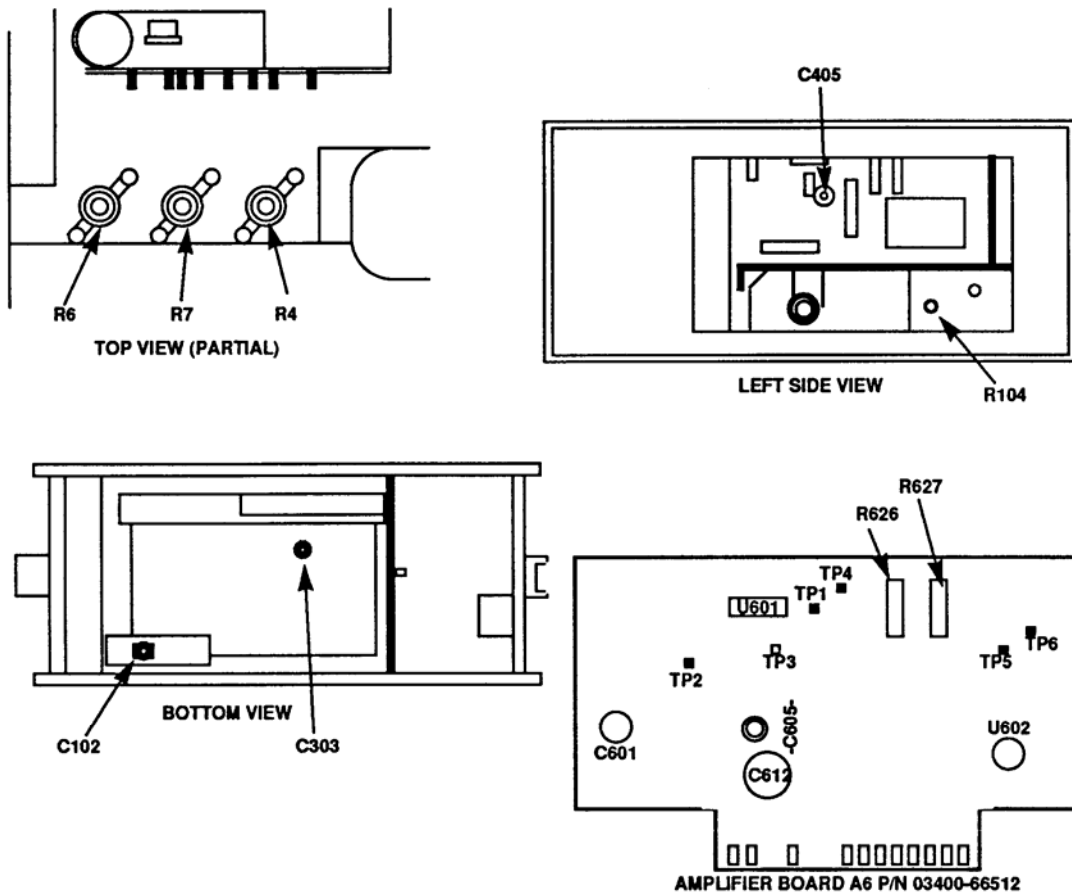

Figure 1. Test instrument - top, left side, bottom view, and A6 board, P/N 03400-66512.
- (1) Adjust R4 (R627 for TIs with amplifier board A6, P/N 03400-66512) (fig.1) until digital multimeter indicates -1.00 V.
- (2) If necessary, adjust R6 (fig. 1) for full-scale indication on TI.
- (3) Set calibrator for a 10 mV, 400 Hz output. Adjust R6 (fig.1) until TI indicates full scale (R).
- (4) Set **RANGE** switch to **.1 VOLTS**.
- (5) Adjust R7 (R626 for TIs with amplifier board A6, P/N 03400-66512) (fig. 1) until TI indicates 0.01 V (1 /10 scale) (R).
- (6) Set **RANGE** switch to **.01 VOLTS**.
- (7) Repeat (3) through (6) above until no further adjustment is necessary.
- (8) Set calibrator for a 1.0 V, 400 Hz output. Adjust R104 (fig. 1) until TI indicates 1 (R).
- (9) Set calibrator for an initial 900 μ V, 1 kHz wideband output, then adjust for the TI indication record for table 3 (0.0009 V).
- (10) Press calibrator **NEW REF** pushbutton, then set frequency to 10 MHz. Adjust C405 (fig. 1) for the 1 kHz reference established in **b** (9) above (R).
- (11) Vary calibrator frequency between 3 and 10 MHz and if required, readjust C405 (fig. 1) for best in-tolerance condition.
(12) Set calibrator for an initial 0.9 V, 1 kHz wideband output, then adjust for the TI indication recorded for table 3 (0.9 V).
(13) Press calibrator **NEW REF** pushbutton, then set frequency to 100 kHz. Adjust C102 (fig. 1) for the 1 kHz reference established in **b** (12) above (R).
(14) Vary calibrator frequency between 100 kHz and 10 MHz and, if required, readjust C102 (fig. 1) for best in-tolerance condition.
(15) Set calibrator for an initial 0.3 V, 1 kHz wideband output, then adjust for the TI indication recorded for table 3 (0.3 V).
(16) Press calibrator **NEW REF** pushbutton, then set frequency to 3.0 MHz. Adjust C303 (fig. 1) for the 1 kHz reference established in **b** (15) above (R).
(17) Vary calibrator frequency between 3 and 10 MHz and, if required, readjust C303 (fig. 1) for best in-tolerance condition.